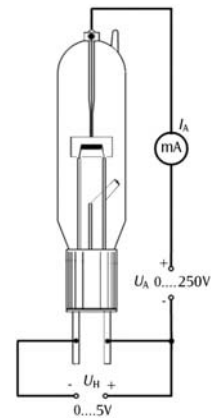

Fig. 4a Circuit set-up for measuring the space-charge and saturation regions
- Connect the circuit as shown in Figures 4a/b.